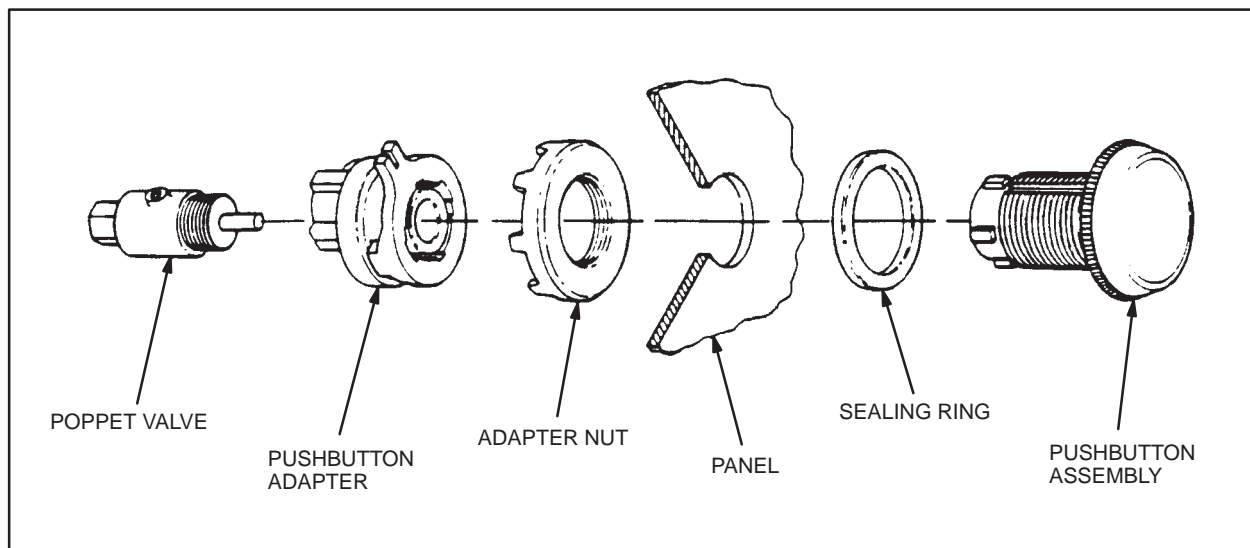

Fig. 7-4. Pushbutton Assembly
C. Pushbutton Replacement or Repair (Figure 7-4)